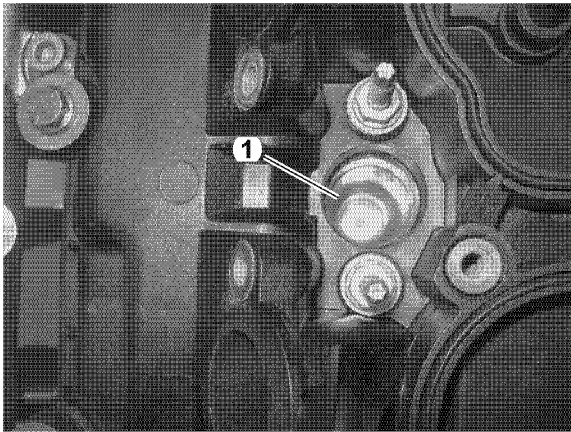

Figure 6-12
2. Ensure the injector seal has been removed from the bottom of the injector cavity (1, **Figure 6-12**).